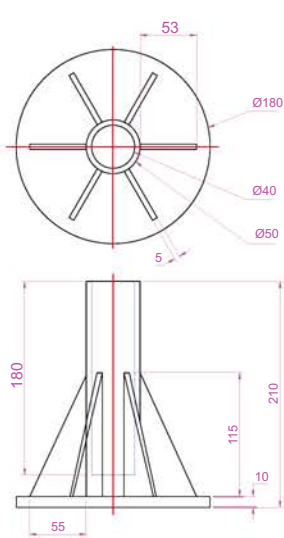

Fig. 11.38 Exercise 3 – orthographic projection
3. Working to the dimensions given in the two orthographic projections (Fig. 11.38), and working on two layers of different colours, construct an assembled 3D model of the one part inside the other.